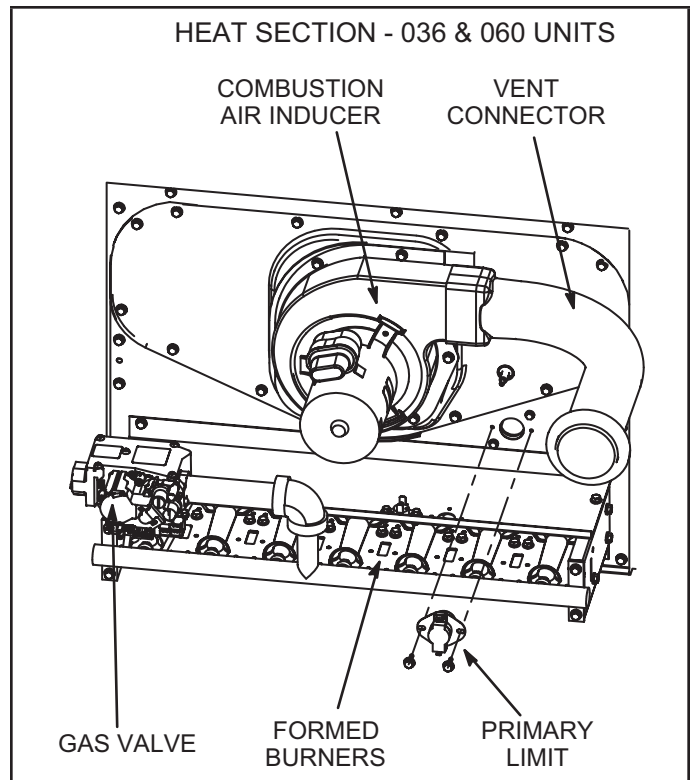

FIGURE 41
*SD 036 & 060* - On the vestibule to the right of the combustion air inducer. See FIGURE 41.